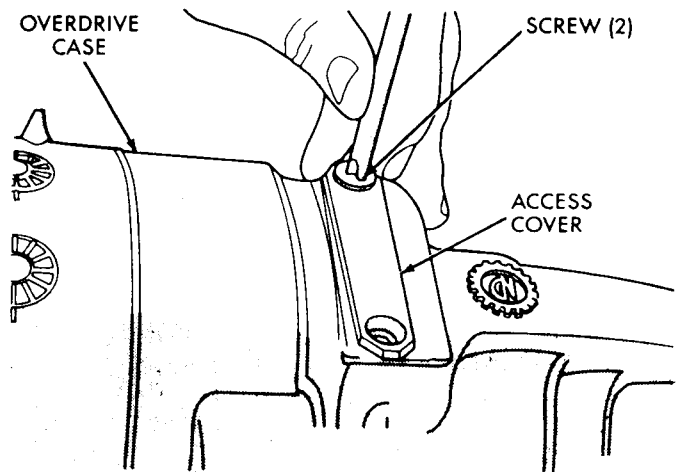

Fig. 7—Access Cover
(5) Remove access cover (Fig. 7). The snap ring holds the output shaft front bearing in place.